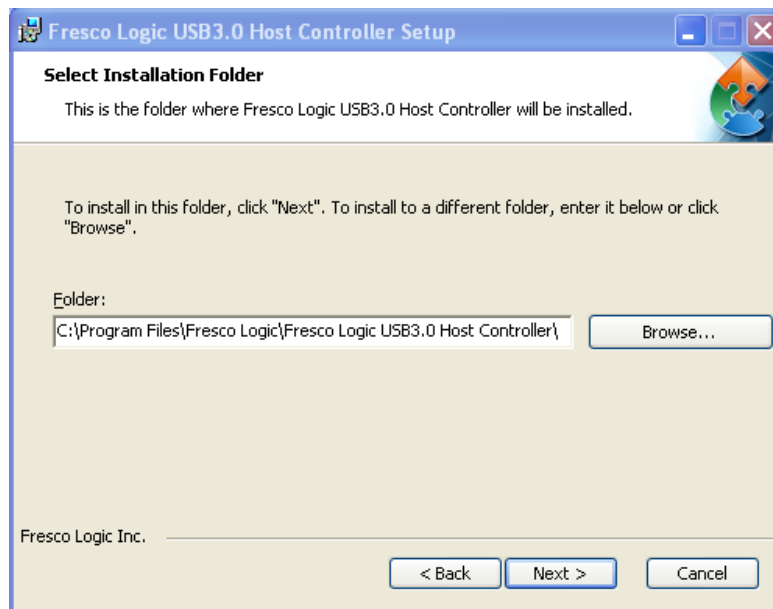

Figure 7-31: USB 3.0 Driver Choose Install Location
Step 6: Browse for an install location or use the one suggested (Figure 7-31).